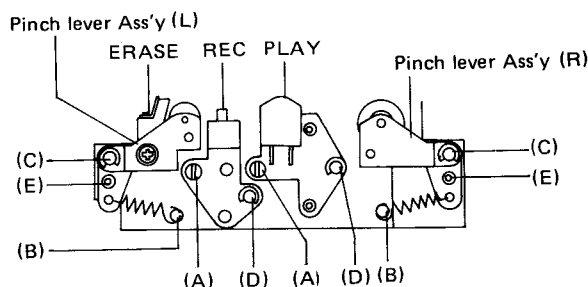

Fig. 7.
- (1) The adjustment screws on the head block are all secured with lock print. To adjust these screws first warm with a solder pencil, then adjust with driver or hex wrench.
- (2) When it is necessary to replace the erase head loosen the screw at the top and to the left of the pinch lever assembly, then the head can be removed.
- (3) When replacing the heads (REC and PLAY), remove the E ring and spring at (D) and remove screw at (A). (Figure 7).
- (4) When removing the right on left pinch lever remove the spring at (B) and the E ring at (C) (See Figure 7). Be sure the tip of screw (E) is in the convex upon reinstallation.